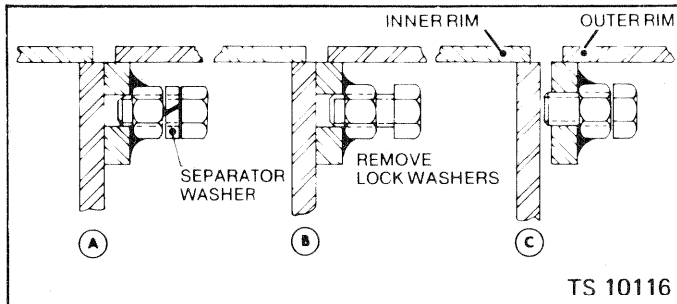

Fig. 17-2 Separator Bolt Operation
10. With the separator bolt lock washers removed, alternately thread in the separator bolts to brake the rim halves apart. Fig. 17-2